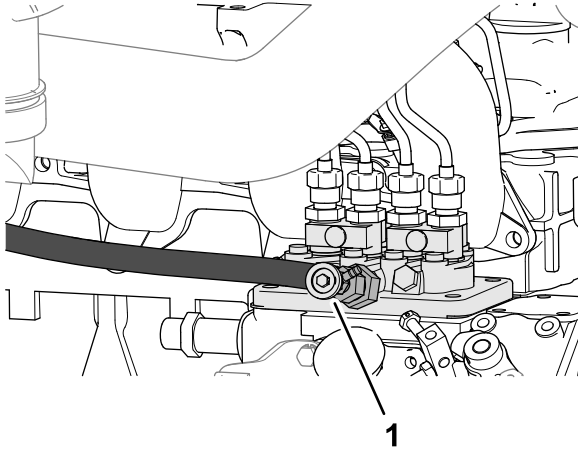

Figure 84
- Open the air-bleed screw on the fuel-injection pump (Figure 84).